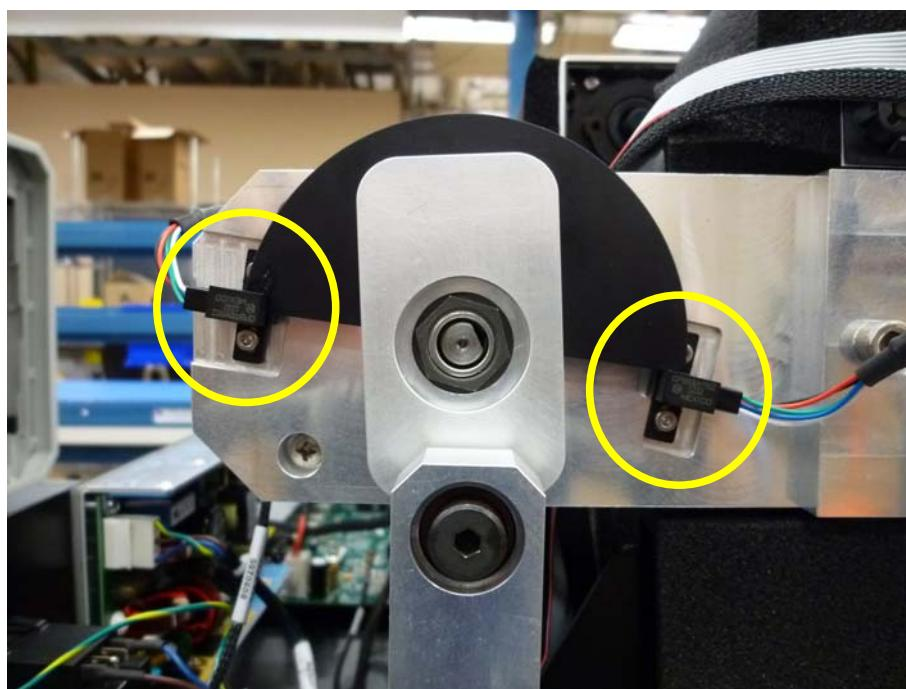

Figure 33
3. When racks reach 20 degree, right Optical Sensor is unblocked while left Optical Sensor is blocked (**Figure 33**).